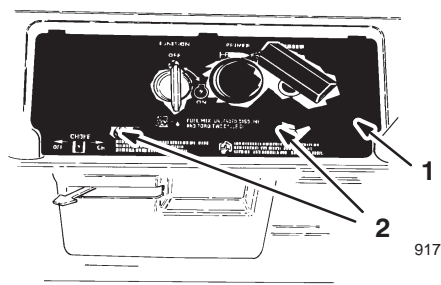

Figure 12
1. Remove the two screws that secure the control panel to the housing (Fig. 12).